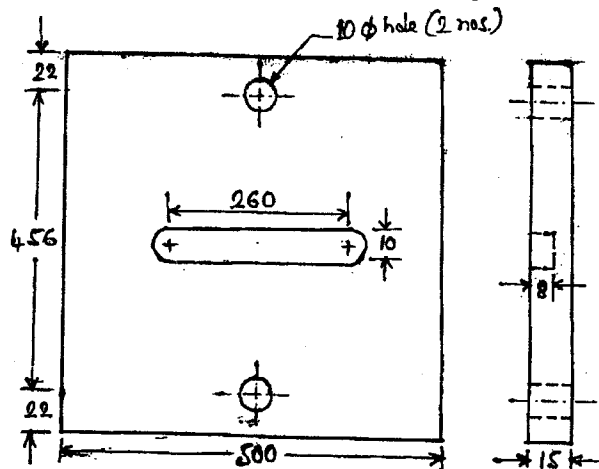

Fig.7(b) All dimensions in mm.
- Prepare the manual part program for CNC machining of a slot and holes in a mild steel plate, as shown in Fig.7(b). Assume suitable data for machining parameters and toolings. Indicate the datum and meanings of G and M codes used in the program. (10 Marks)